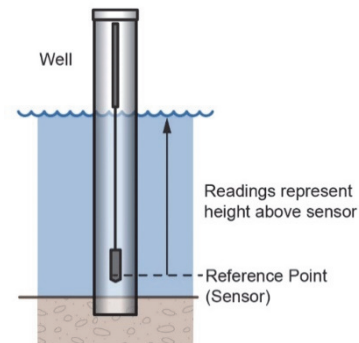

Figure 3: Water level is above pressure sensor
**Scenario 2: Measuring Water Depth** (Figure 3)